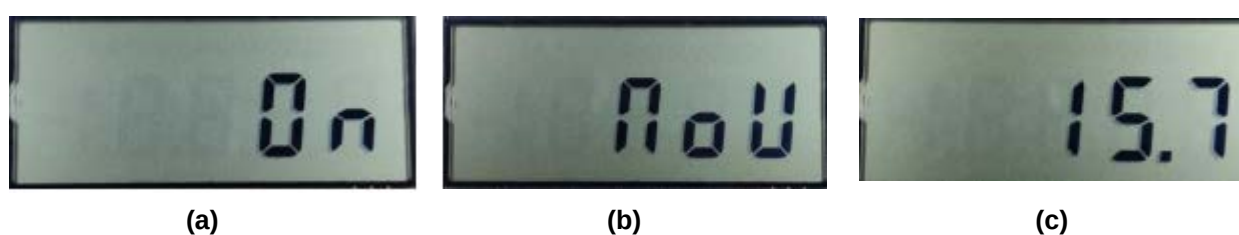

Figure 7. (a) On Displays When the LCD Turns On During the First Second
- After the green LED lights up, the LCD briefly displays **On** for 1 second (Figure 7, a); next, **NoV** appears on the LCD (Figure 7, b) indicating that the bus voltage is below 3V.
- If the setup is correct, the LCD displays the measured current value in mA (see Figure 7, c), which would be 10.0 for this procedure.